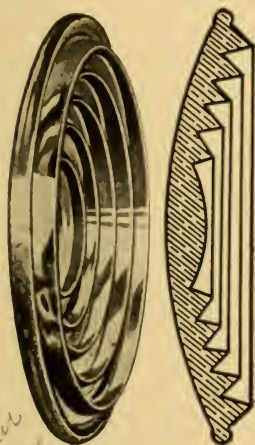

FIGURE 99H
The older type of Mazda was operated with a 2-lens plano convex condenser. The newer types use either (202) the prismatic condenser shown in Fig. 99H or the more efficient aspheric lens.
The prismatic condenser, shown in Figure 99H, because of its relatively short source-to-aperture distance is still used with portable projectors, where compactness is essential. (205) Aspheric condensers work best with definite and comparatively short condenser-to-aperture spacing, hence are not efficient with the very